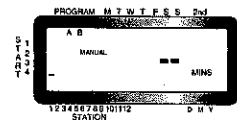

Figure 13
- ◆ Press the MANUAL key. Then press NEXT three times. The display will show a blinking cursor on station 1 along with -- MINS [See Figure 13].